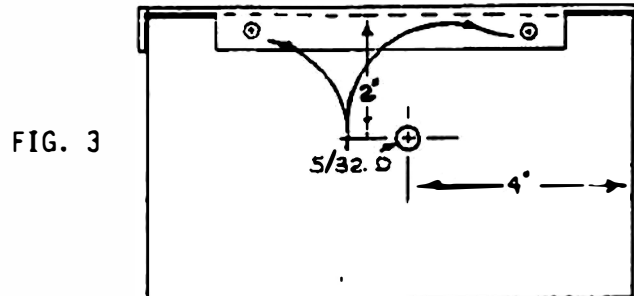

FIG. 3
- () 13. If not already present, mark and drill three 5/32 inch holes in the right side of the C.S. box, as shown in Fig. 3. To locate the support plate mounting holes, temporarily place transformer support plate assembly over the top outside edge of the C.S. box and mark the two 5/32 inch mounting holes. DO NOT DRILL THROUGH HOLES IN PLATE.